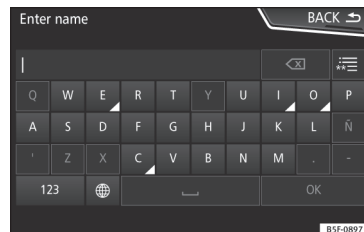

Fig. 201 Search window.
- Enter the name of the contact you are looking for in the window »» **Fig. 201**. While the characters are being entered, a contact is displayed in the input field.